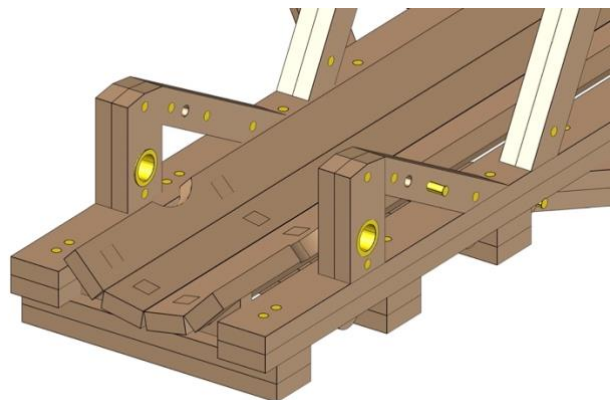

Fig. 60
- Fig. 60 shows the completed process.